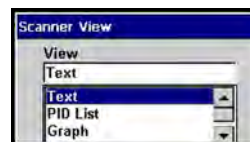

Figure 5-61 Sample Scanner View menu
2. Press **Y/✓** to display a dropdown list (Figure 5-61).